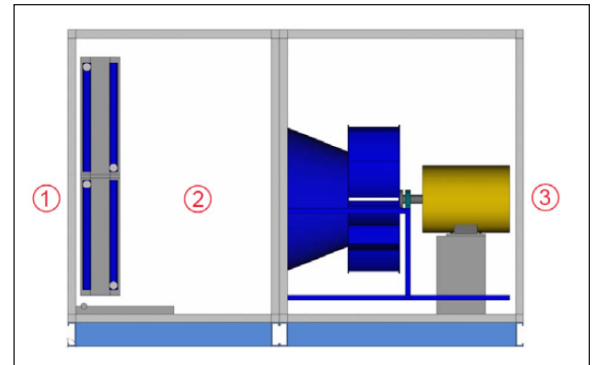

Figure 1 Draw-Through
Referring to Figure 1, the entering coil temperature is position 1. The leaving air temperature off the coil is position 2 and the air temperature leaving the unit is position 3. We normally know the entering coil condition (1) and select a coil for a leaving air condition (2).